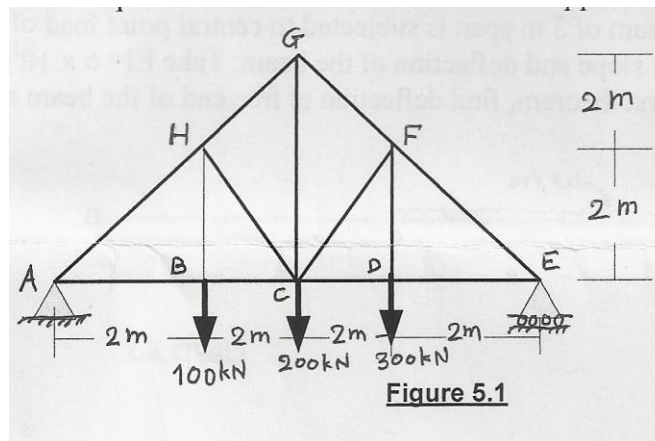

Figure 5.1
Q. No. 5: Find deflection at point 'B' for the truss loaded and supported as shown in Figure 5.1 (16)